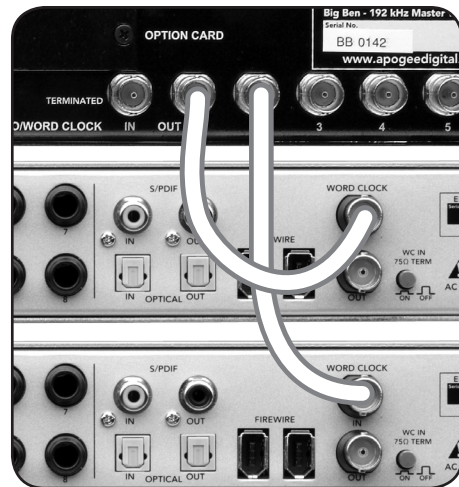

figure 22
1. Connect a word clock cable between individual master clock word clock outputs and each Ensemble’s word clock input. (figure 22)